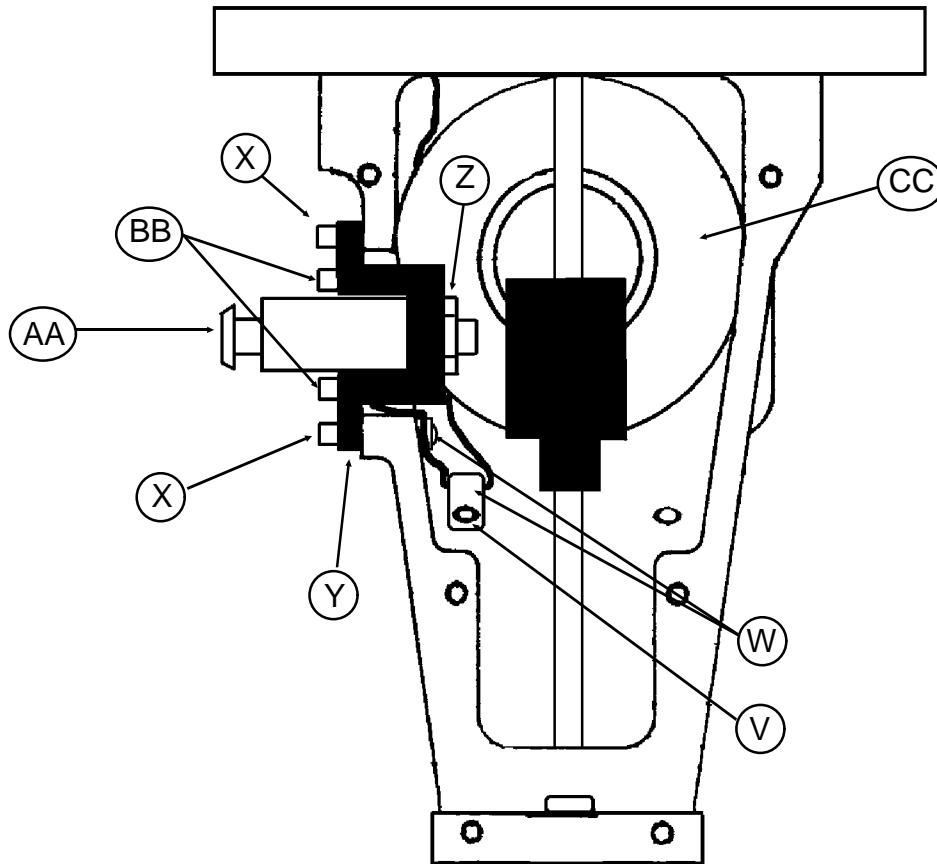

Figure 5
19. Loosen, but do not remove, the two Retaining Screws (Figure 5-V) holding the silver Jump Stitch Cable Clamps (Figure 5-W) in place, and gently pull the Cable out from under the Clamps.
20. Remove the two Retaining Screws (Figure 5-X) holding the Jump Stitch Solenoid Mounting Bracket (Figure 5-Y) in place.
21. Remove the Lock Nut (Figure 5-Z) holding the Jump Stitch Solenoid Figure 5-AA) in the Mounting Bracket.
22. Remove the two Retaining Screws (Figure 5-BB) holding the Jump Stitch Solenoid Bracket together.
29. Route the Jump Stitch Cable up through the Head and secure it in place with the silver Jump Stitch Cable Clamps. We recommend that you tighten the lower Clamp first, then position the Cable so that there is no interference with the Take-Up Lever Cam (Figure 5-CC) and tighten the upper Clamp.